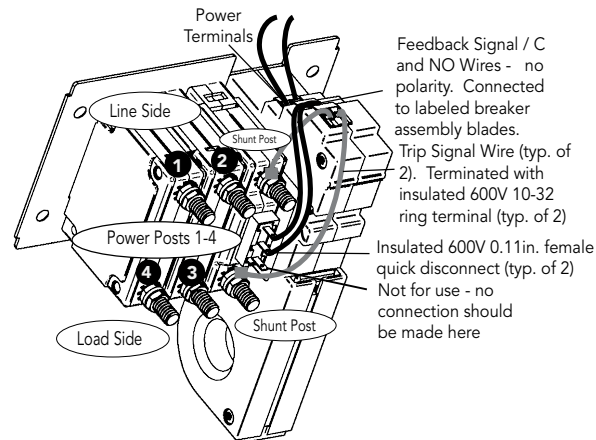

Figure 6. Pre-Wired GFPD-150V / Breaker Assembly
The GFDP-150V and breakers are assembled at the factory. Breaker shunt, (C) and (NO) leads are pre-wired to the GFDP-150V terminals - See Figure 6. The GFDP-150V external voltage source connections are described in the next section - Completing Wiring.
3.2.2 Completing Wiring - See Figures 6 and 7
Step 2. Crimp the supplied ring terminals on the ends of the (+) and (-) solar<->breaker conductors, and connect solar array (+) wire to post (4) (load side), and solar array (-) wire to post (2) (line side) using the supplied hardware (see Figure 6).
Step 3. Crimp the supplied ring terminals on the breaker side ends of the (+) and (-) breaker <-> controller conductors. Connect breaker side (+) wire to post (1) (line side), and breaker side (-) wire to post (3) (load side) using the supplied hardware (see Figure 6).